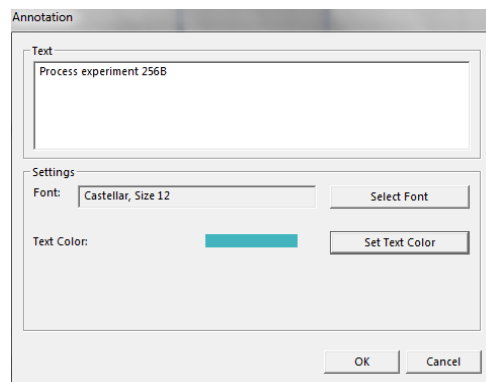

Fig. 59. Annotation editing dialog
1. Select the *Add Annotation* function in the right-click menu. The window shown in Fig. 59 appears.